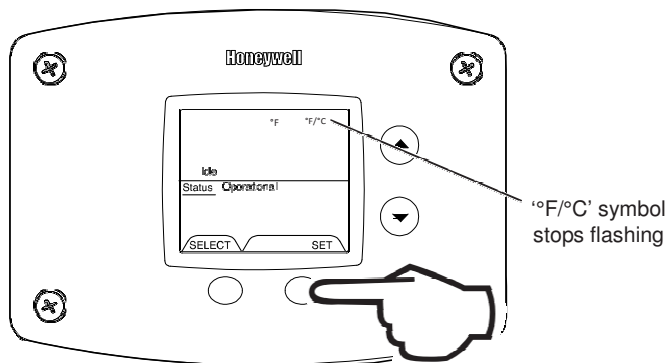

Fig. 57
4. Press 'Set' button to confirm °F or °C format. °F/°C will stop flashing (Fig. 57).